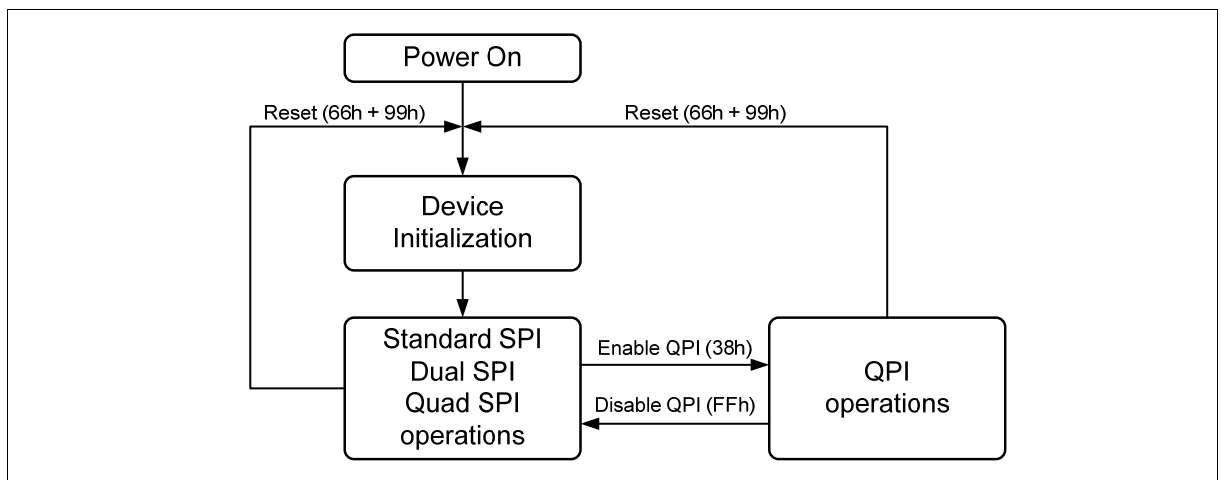

Figure 2 FM25Q04 Serial Flash Memory Operation Diagram
The FM25Q04 supports Quad Peripheral Interface (QPI) operations only when the device is switched from Standard/Dual/Quad SPI mode to QPI mode using the “Enable QPI (38h)” instruction. The typical SPI protocol requires that the byte-long instruction code being shifted into the device only via DI pin in eight serial clocks. The QPI mode utilizes all four DQ pins to input the instruction code, thus only two serial clocks are required. This can significantly reduce the SPI instruction overhead and improve system performance in an XIP environment. Standard/Dual/Quad SPI mode and QPI mode are exclusive. Only one mode can be active at any given time. “Enable QPI (38h)” and “Disable QPI (FFh)” instructions are used to switch between these two modes. Upon power-up or after a software reset using “Reset (99h)” instruction, the default state of the device is Standard/Dual/Quad SPI mode. To enable QPI mode, the non-volatile Quad Enable bit (QE) in Status Register-2 is required to be set. When using QPI instructions, the DI and DO pins become bidirectional  $DQ_0$  and  $DQ_1$ , and the WP# and HOLD# pins become  $DQ_2$  and  $DQ_3$  respectively. See Figure 2 for the device operation modes.